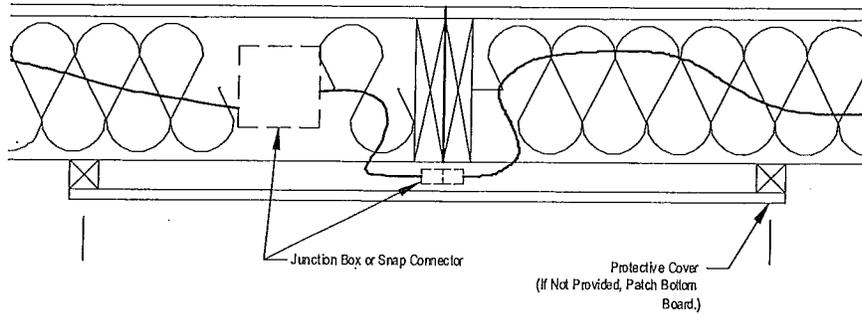

Figure 51. Floor electrical crossover wires with bumped-out access panel
**Route wires.** Pass the wires through predrilled holes or notches in the rim joist or if there is a single bumped-out access panel as in Figure 51, then under the rim joists. If holes or notches have not been provided and there is no bumped-out access panel, drill maximum one-inch diameter hole(s) half-way up the rim joists on each home section, making sure the holes align and feed the wire through the hole.